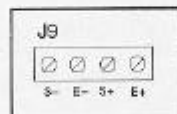

Figure 2-6: Connection assignments for the Load Cell Terminal (J9)
1. Connect your shielded load cell cable (not included) to terminal J9 on the main board. Connection assignments for the Load Cell Terminal (J9) are shown in Figure 2-6.